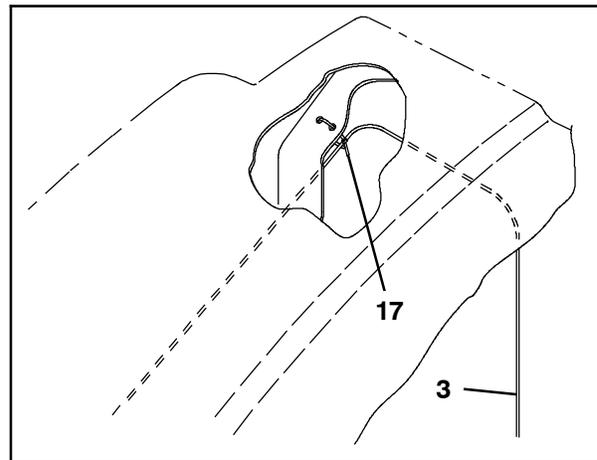

FIG. 8
23. Use a cable tie (17) to secure the antenna (3) cable to the hopper cover and close the hopper cover. (Fig. 8)